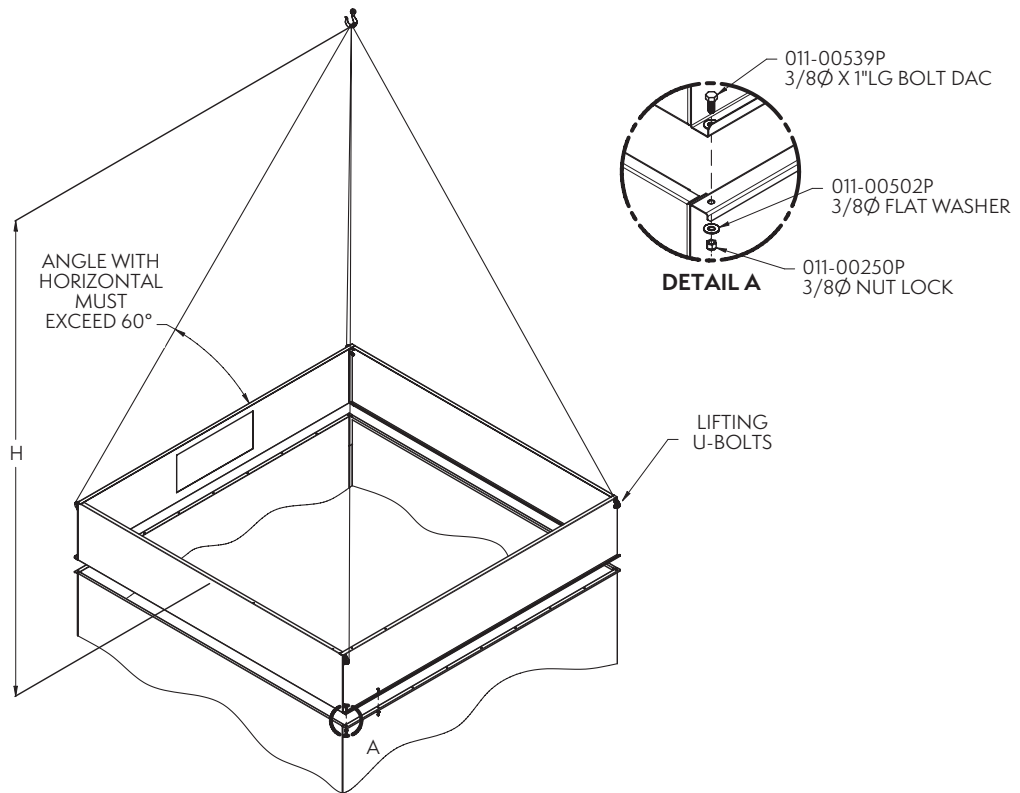

Figure 14 – Discharge Hood Rigging and Assembly (Shown without Dampers)
Some units may be supplied with an optional discharge hood section. This section will ship from the factory as a separate item or loosely mounted on top of either the basin and fan section or casing section to reduce freight charges. Each hood section is equipped with U-bolts located at the four corners for lifting and final positioning (**Figure 14**). Always use safety slings for extended lifts or where any hazard exists.
Install the retainer clips in all four corners as shown in **Figure 14**. For 18-foot-long hoods, two (2) additional clips are provided and are to be fastened in the middle of each side.